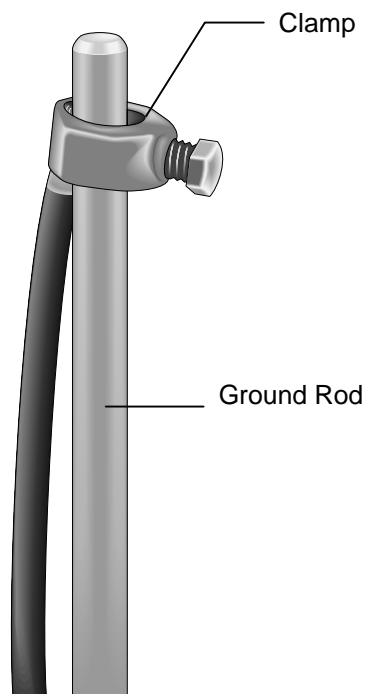

FIGURE 2.1-10. Ground Rod and Clamp
2. Loosen the bolt that attaches the clamp to the ground rod. Insert one end of the 4 AWG wire between the rod and the clamp and tighten the bolt (Figure 2.1-10).